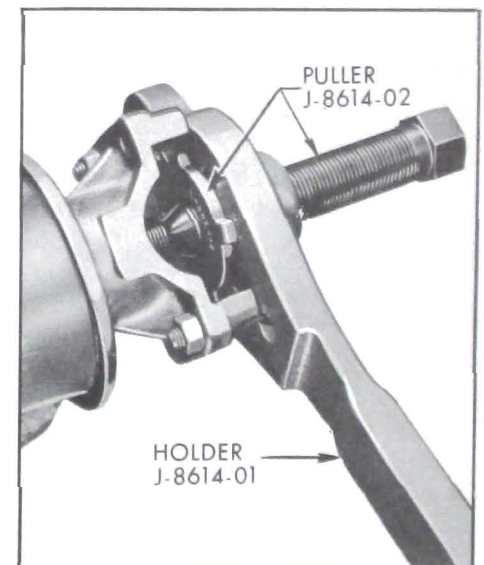

Figure 6-16—Removing Pinion Flange
4. Pull pinion flange from pinion using Puller J-8614-02 in Holder J-8614-01. To install puller, back out puller screw, insert puller through holder and rotate 1/8 turn. See Figure 6-16.